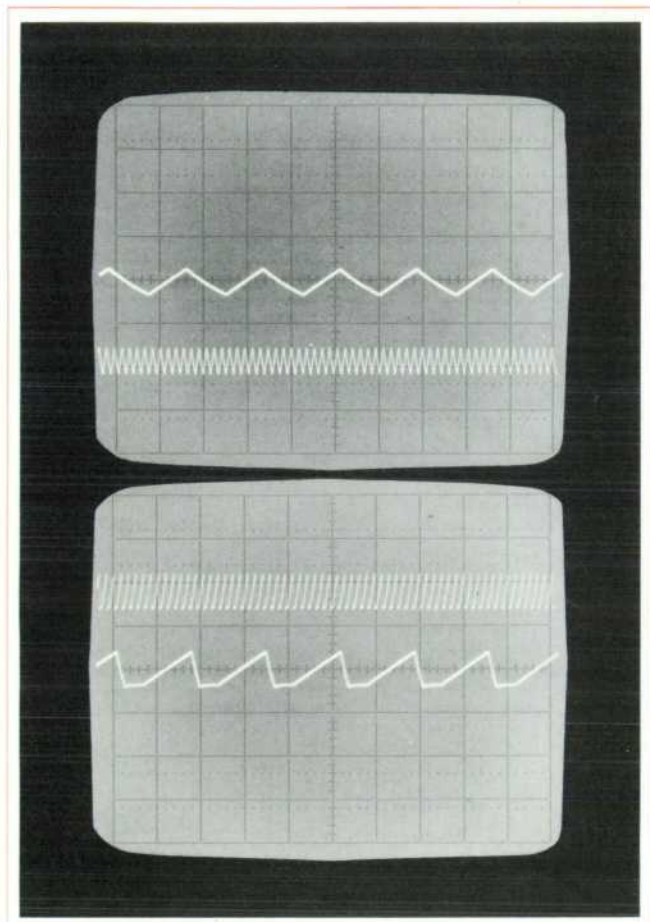

Fig. 3. Movable film holder and half-size image allow placement of two photos on one sheet of film.
**Fig. 3.** Output of an ECL gate connected to Model 5326A Timer/Counter, first using only a 50Ω cable (middle trace) and then a 50Ω cable with the proper series termination. Reflections resulting from improper termination can cause double counts, incorrect readings.
Ceramic base tubes handle the high voltage and power, and transistors provide most of the control function. The amplifier uses operational feedback as an overall feedback scheme with local feedback to reduce the effects of local nonlinearities, Fig. 3. Current drawn by the adjustable current generator from the summing junction must be supplied through the feedback resistor. This establishes the dc bias voltage on the amplifier output ( $+1820$  V dc). The amplifier at the operational summing junction is a 'voltage in, current out' amplifier. A low-distortion current output waveform results from a low-distortion voltage input. This current drives into the cathode of a grounded-grid tube to provide a low-distortion voltage at the plate of the tube, and reduces